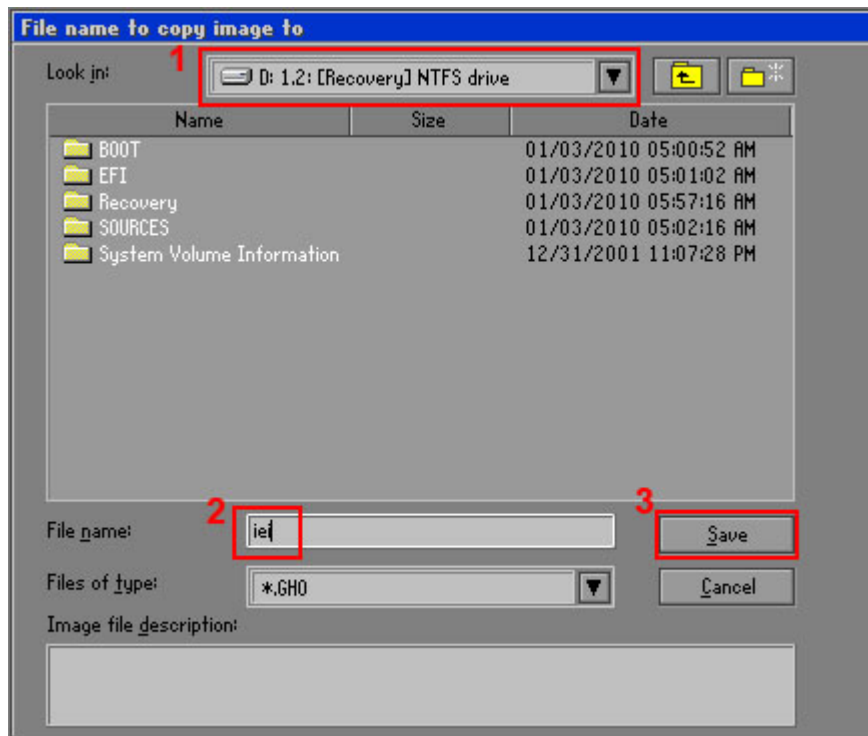

Figure A-16: File Name to Copy Image to
Step 7: Select **1.2: [Recovery] NTFS drive** and enter a file name called **iei** (**Figure A-16**). Click **Save**. The factory default image will then be saved in the selected recovery drive and named **IEI.GHO**.